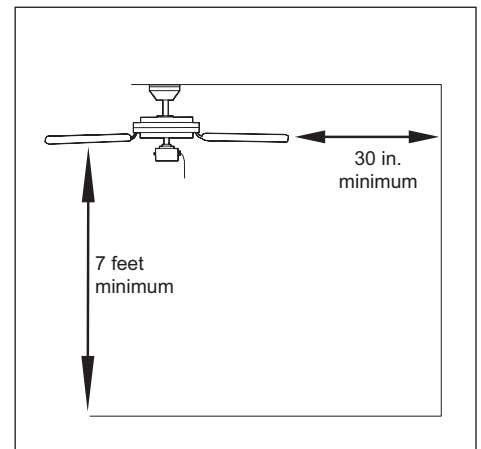

Figure 1.3
3. Ensure the blades will be at least 30 inches from any obstructions. Also check the downrod length to ensure the blades will be at least 7 feet above the floor (Figure 1.3).